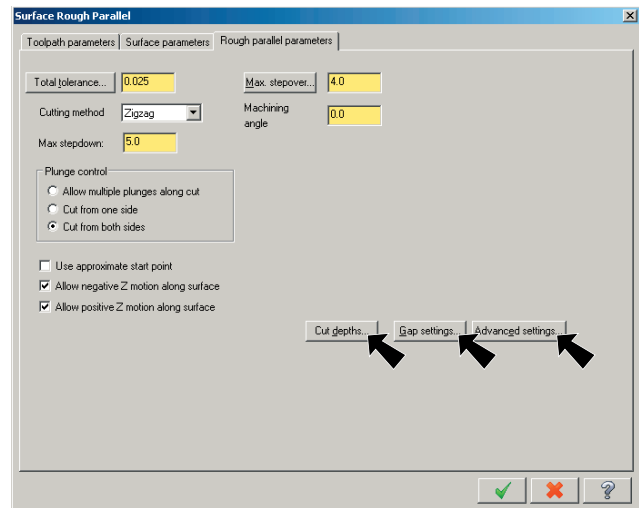

Fig. 78
Step 19. Click **Cut depths** button, **Fig. 78**.
Step 21. Click **Gap settings** button. **Fig. 78**
Step 24. Click **Advanced settings** button, **Fig. 78**.